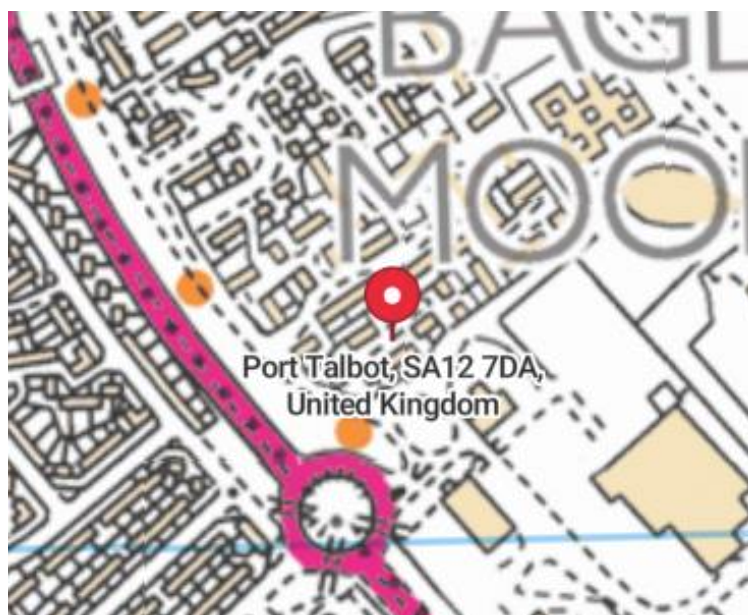

Fig. 6
- 5.7 Ordnance Survey maps have been consulted to establish if any known watercourses are present. There are no water courses shown within 200m of the site, see Fig. 6 below.